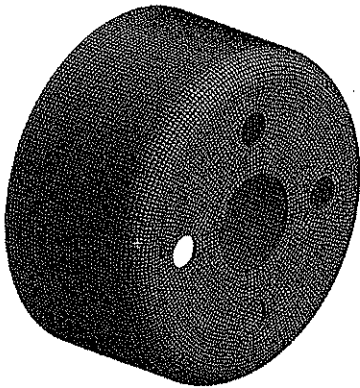

Figure 10-45 Mesh generated with the applied local mesh control settings
17. Choose the **Update** tool from the **Mesh** contextual toolbar; the **ANSYS Workbench Update Status model** message box is displayed. After sometime, the mesh is generated with the applied local mesh control settings, as shown in Figure 10-45.